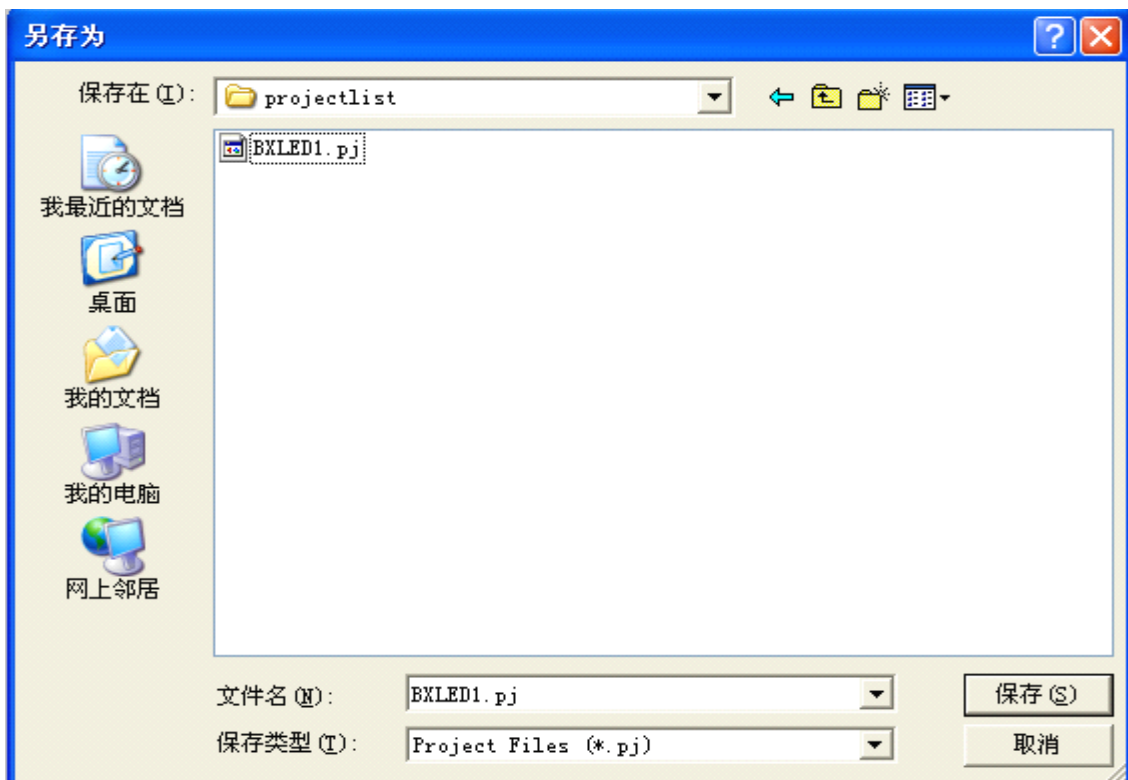

figure 3-14
- ◆ Save : click the save button, popup the “save as “ dialog, save the current program file ,the file must be \*.pj. As shown in figure 3-14.